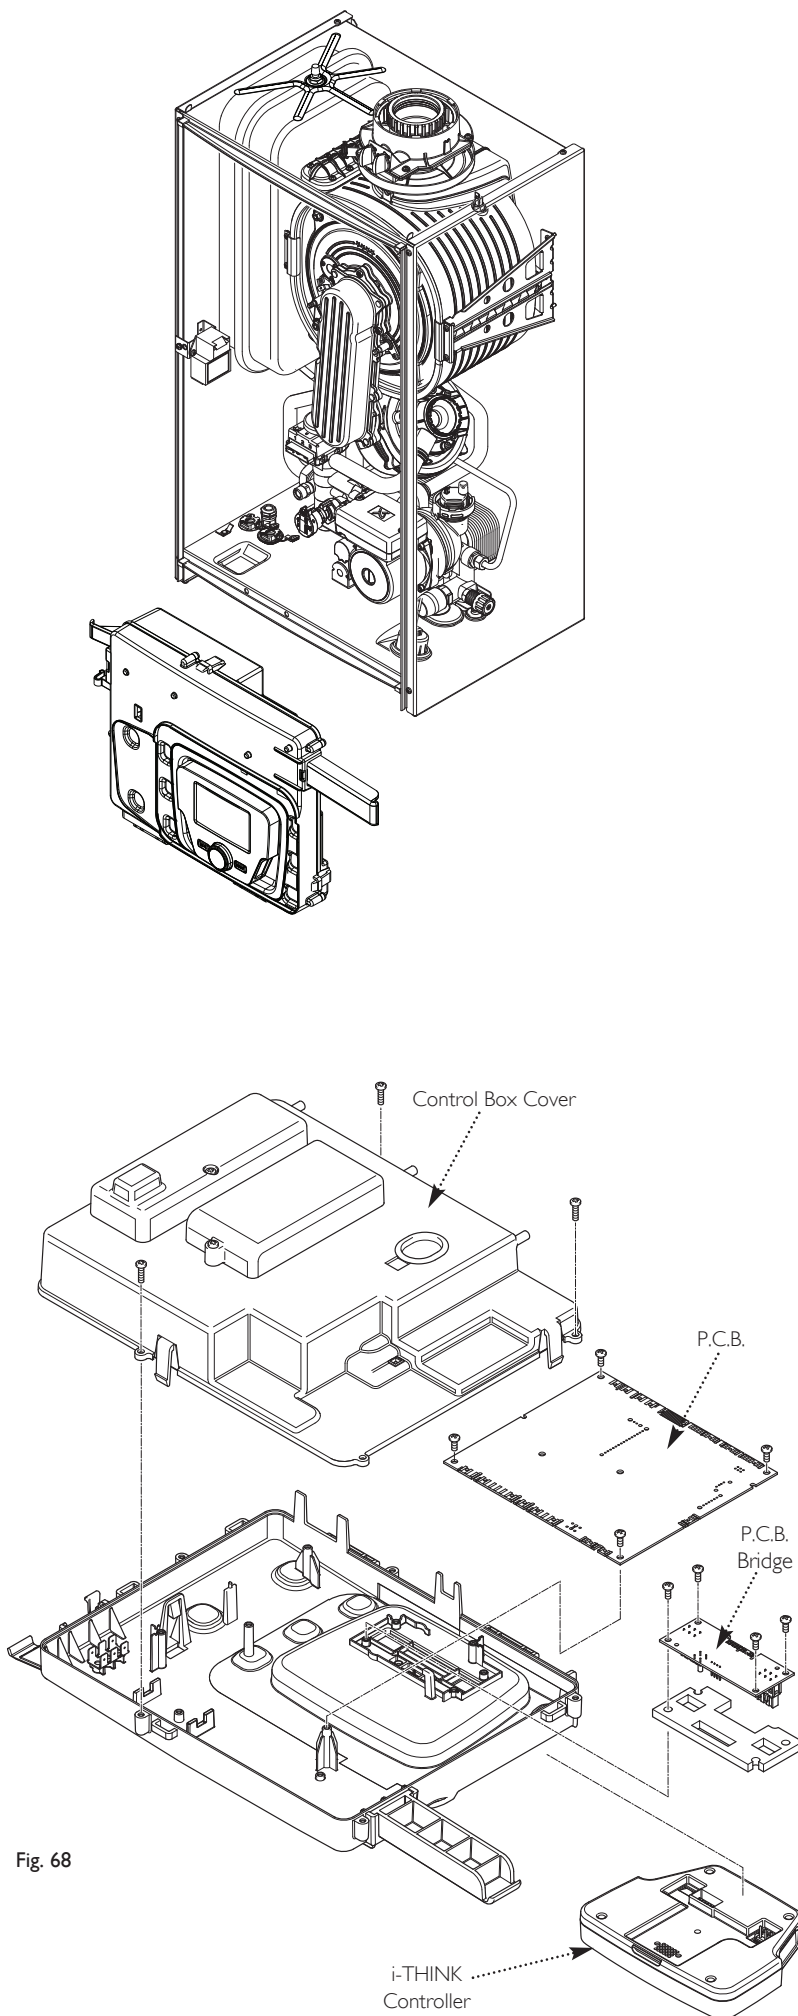

Fig. 68
15.20 P.C.B. (Fig. 68)
15.21 P.C.B. Bridge (Fig. 68)